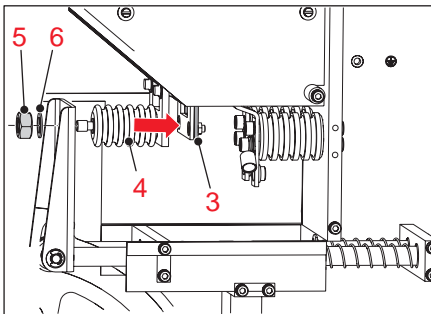
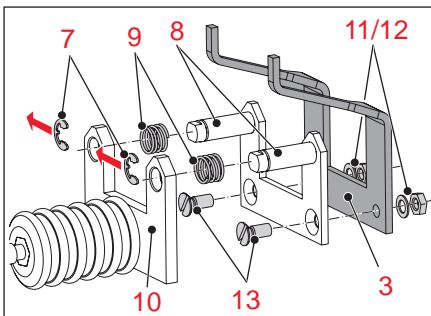

Figure 16
Figure 17
For better accessibility, the main contact bridge (3) is removed together with the isolator (4) as a complete unit, see **Figure 16**.
4. Release nut M8 (5) on the cross bearer drive unit and slide off together with retaining washer (6).
6. Pull off the circlips (7) laterally from the contact shafts (8), see **Figure 17**.
7. Pull contact shafts (8) with pressure springs (9) and intermediate sheet out of the bearing support (10). Remove the pressure springs (9) from the contact shafts (8).
8. Release the 2 nuts M5 (11) and remove them together with the retaining washers (12).
9. Slide off the 2 counter-sunk screws M5 (13) from the intermediate sheet and remove the main contact bridge (3).
10. Screw a new main contact bridge (3) onto the intermediate sheet, using the 2 counter-sunk screws (13), retaining washers (12) and nuts M5 (11).
11. Push new pressure springs (9) onto the contact shafts (8).
12. Insert the contact shafts (8) with pressure springs (9) and intermediate sheet into the bearing support (10).
13. Push the circlips (7) laterally onto the contact shafts (8).
14. Attach the complete unit to cross bearer drive unit and tighten it with the nut M8 (5), see **Figure 16**.
15. Apply screw lock lacquer to the nut M8 (5) as well as to the bolt thread.